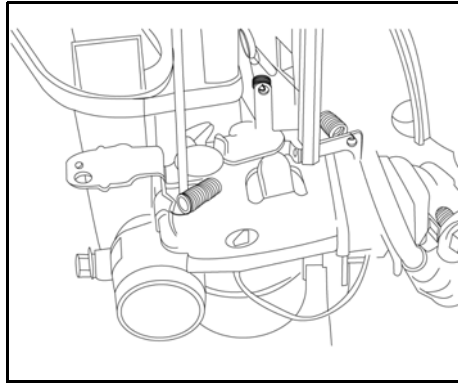

Figure 35
6. Move throttle lever to FAST position. Hole in lever will line up with hole in governor control bracket (Figure 35). Insert a 1/8" rod through holes to lock lever in this position.